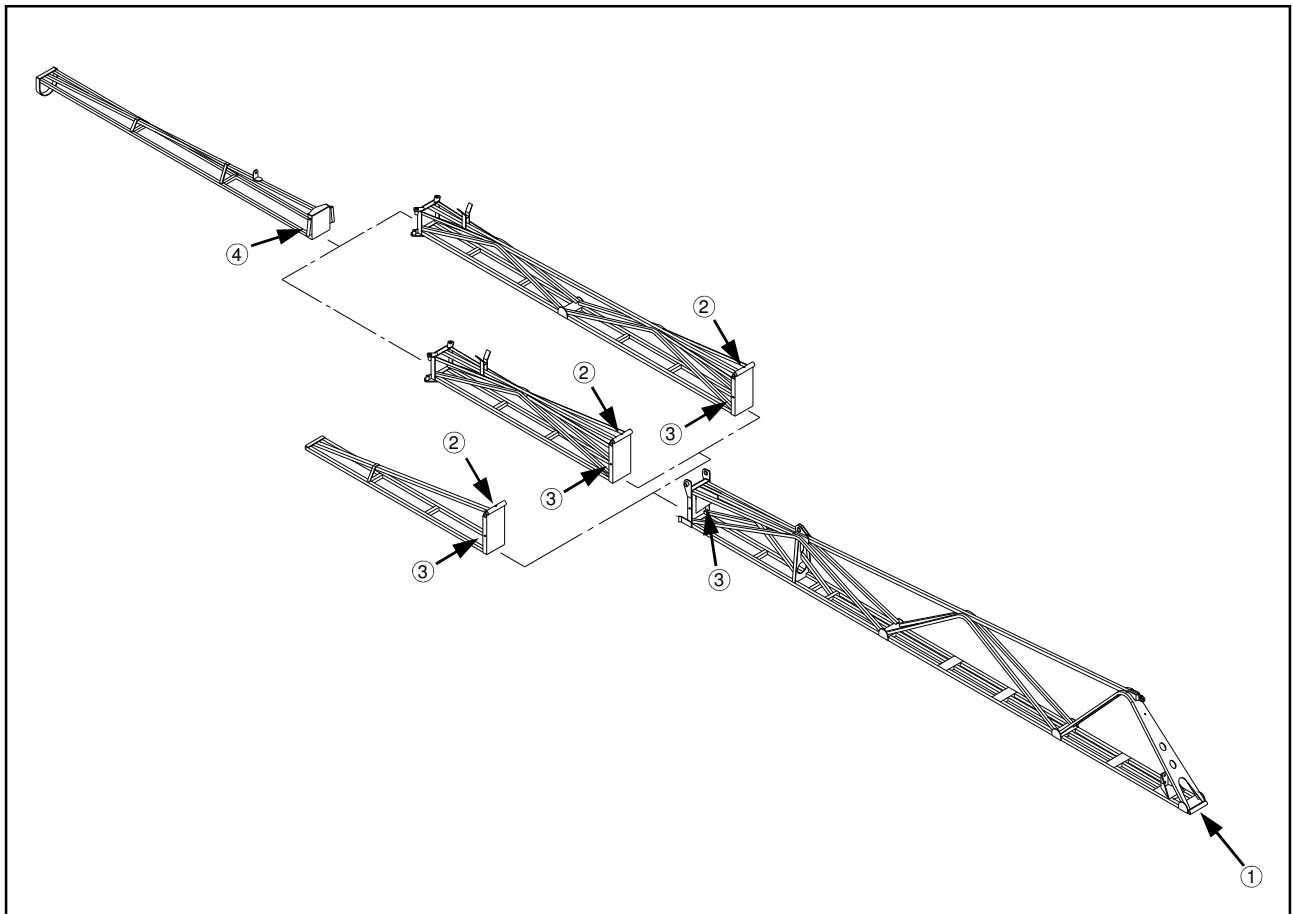

FIG 8.33
Sixty foot boom options have a grease zerk on the boom level pivot point connected to the breakaway (fig. 8.33, item 1), on the boom extension vertical folding pivot point (fig. 8.33, item 2), and on the boom folding link clevis pins (fig. 8.33, item 3). Eighty and ninety foot boom options also have these zerks in addition to zerks for the folding pivot of the outer boom breakaway (fig. 8.33, item 4). Check all and grease as required.